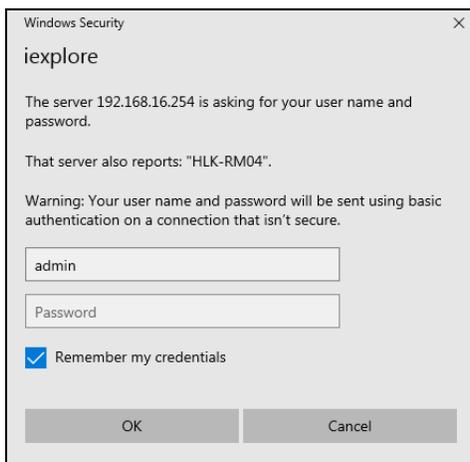

Figure 4-1. Enter Device Password
- The SCT-2200 Wi-Fi will require a password. See Figure 4-1. Enter default device Username: admin and Password: admin. To change device password see Section 4.4.1 on page 18.